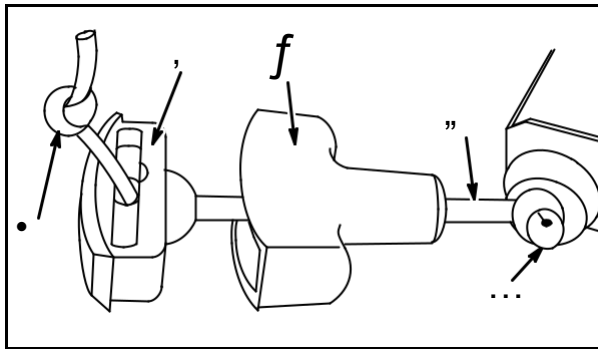

Fig. 55
Insert rope (4) through starter rope handle (3) and handle insert (2), **Fig. 55**.